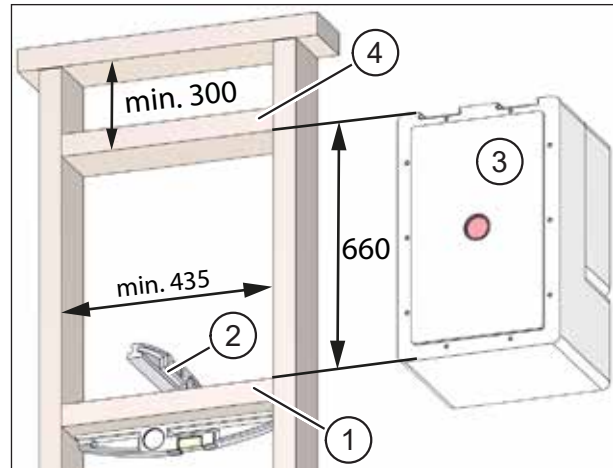

Fig. 10: Creating a mount for the installation kit in a frame construction – dimensions in millimetres
- The lower batten (item 1 in Fig. 10) acts as a support.
- ▶ Use a spirit level (item 2 in Fig. 10) to check that the lower batten is exactly horizontal as this is the only way to ensure that any condensation will be carried outside by the 2° pipe fall in the installation kit (item 3 in Fig. 10).
- The upper batten (item 4 in Fig. 10) is used to fix the installation kit.
- The installation kit is fixed in the optimum position with a vertical distance of 660 mm between the lower and upper batten (see Fig. 10). You can insert the installation kit temporarily while fixing the battens to ensure that the kit will fit perfectly.